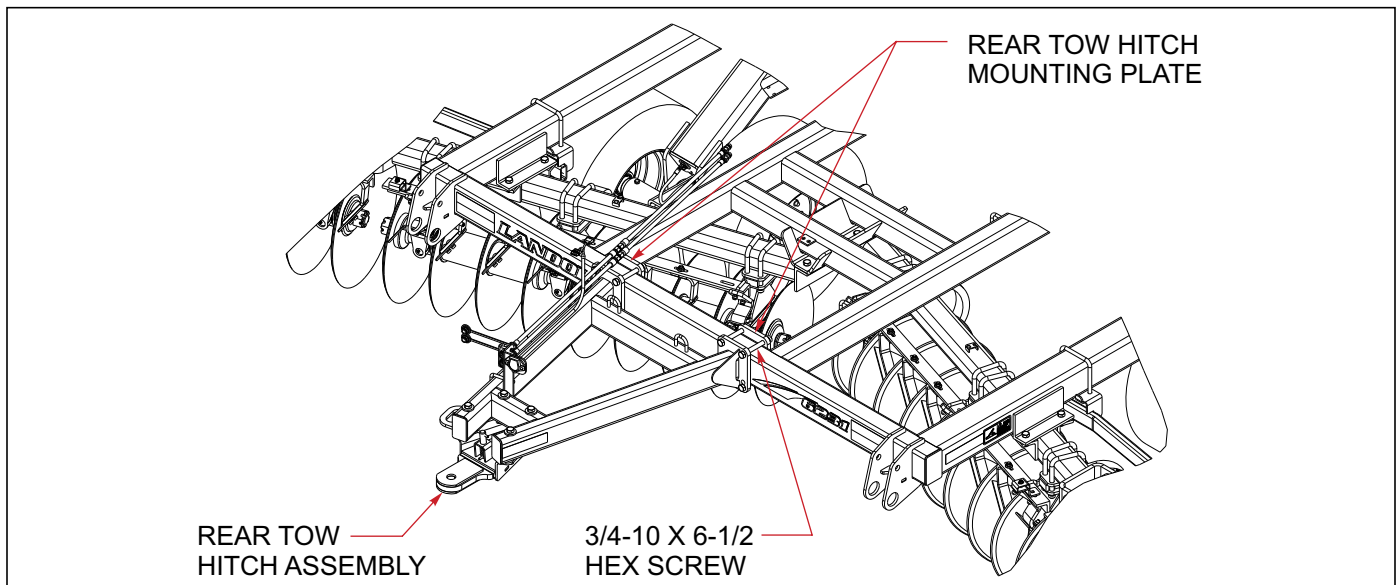

Figure 3-15: Rear Tow Hitch Installation
1. Attach the rear tow hitch assembly to the rear bar of the center frame using rear tow hitch clamp plates, 3/4-10 x 6-1/2 hex head cap screws, and hex lock nuts (**See Figure 3-15.**) The tow hitch should be centered on the back bar of the frame.